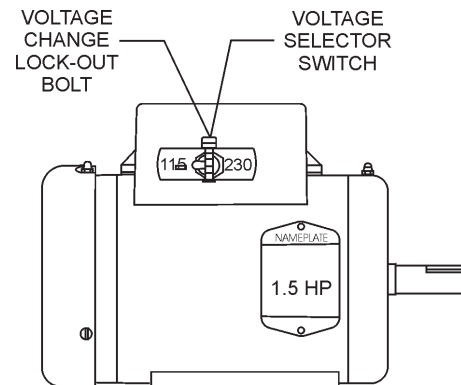

Figure 17. Voltage Change Switch (115 VAC Position)
5. Place the voltage selector switch (Figure 17) in the position that is in accordance with voltage listed on the electric motor's nameplate. The electric motor's are shipped from the factory with the voltage selector switch placed in the 115 VAC position.